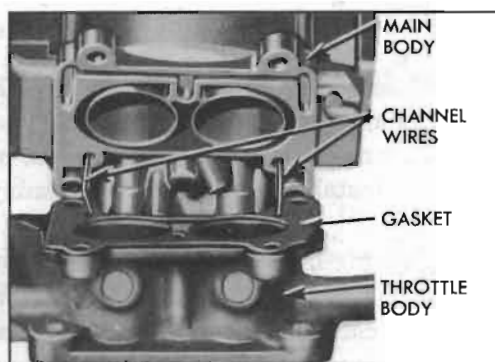

Figure 3-79—Location of Idle Channel Wires
9. Place new main body gasket on throttle body. Insert short ends of idle channel wires in idle channels of throttle body and guide opposite ends into idle channels in main body as it is placed on throttle body. See figure 3-79. Install long main body attaching screws on same side